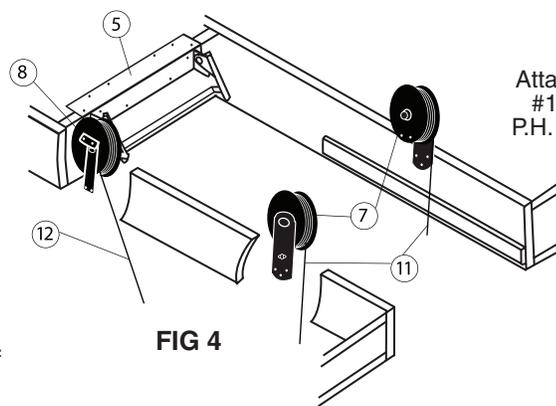

FIG 4
**STEP 4.** Install guide frame (Part 5) by hooking the angle on top of the attic floor in the center of the finished opening, directly above the door hinge, as shown in FIG 4. Attach with #10 x 1" P.H. screws. After all screws are tightened and guide frame has been set firmly in position, re-measure between the faces of the slide bars to make certain they are still  $16\frac{5}{8}'' \pm 1/32''$  and also parallel. If any adjustment is needed, now is the right time to do it. Grip the slide bar with vice grips, crescent wrench, or other tool, and bend as necessary to set slide bars at  $16\frac{5}{8}''$  apart and parallel when measured from face to face.
**STEP 5.** Install panel drums (Part 7) on both sides of finished opening as shown in FIG 4, making sure centerline of each drum is 30" from the header and that the small tab on the drum mounting bracket sits on top of the attic floor. Positioned correctly, the top of the drum will be above the attic floor. Secure each with four #10 x 1" P.H. screws. (NOTE: Parts designated left or right is from a position facing the front of the lowered ladder.)